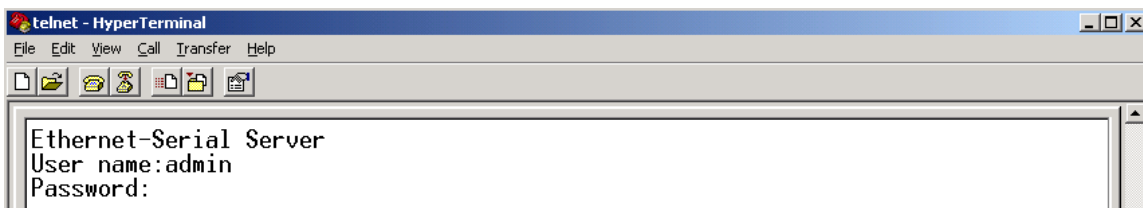

Figure 3.4 Login to the system
2. Telnet to STE-501C using command **Telnet IP address**. (For example: Input **Telnet 10.0.50.100** in Ms-DOS command prompt window). After telnet to STE-501C, system prompts for a password, the default password is default. (Figure 3.4)